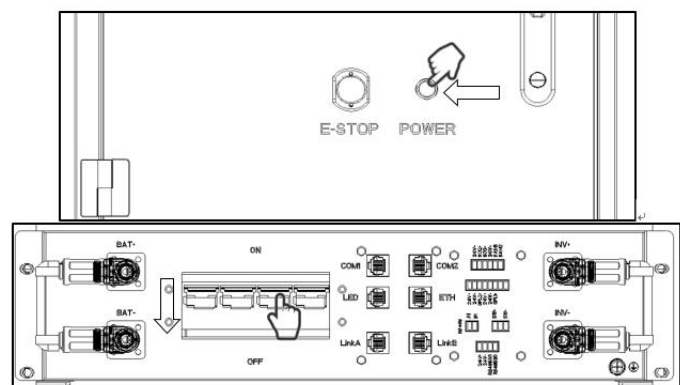

Figure 4.2.4
Step 5: Press the front door POWER button for 3 seconds, the running green indicator light will turn off, then put the air switch of the main control box in the off state, and the system will shut down (Figure 4.2.4).